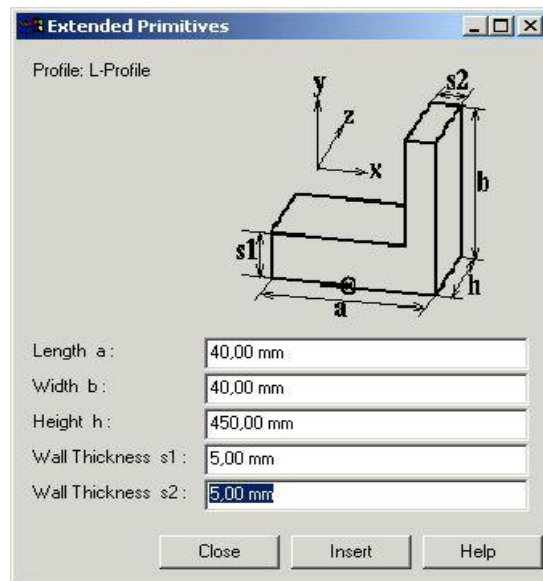

Figure 58: Dialog Example – Inserting Parameters
- 3) Click **Insert** button in the parameter settings dialog to insert the primitive at the zero-point. Please refer to the Figure 58.